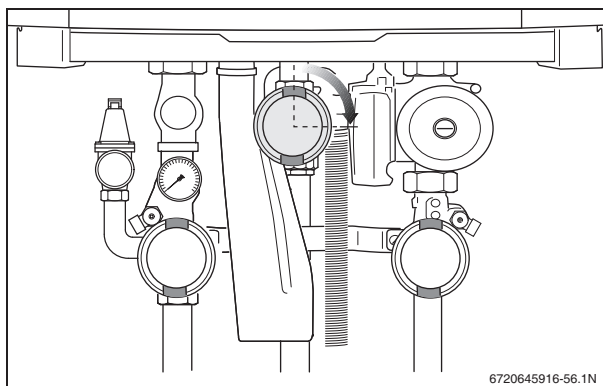

Fig. 56 Closing the gas valve
- Close the gas valve (fig. 56).
- Close the gas shutoff valve when no more air is present (fig. 56).